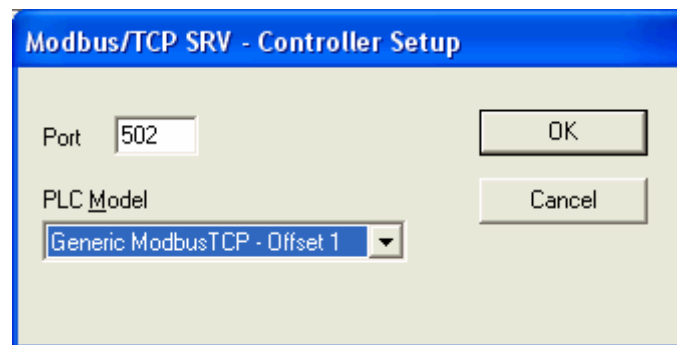

Figure 2 – Controller Setup dialog box
- 1) Choose the communication driver 'Modbus/TCP SRV' from the list in the 'Select Controller' dialog box. The 'Controller Setup' button can then be pressed to display the 'Modbus/TCP SRV – Controller Setup' dialog box as shown in Figure 2.